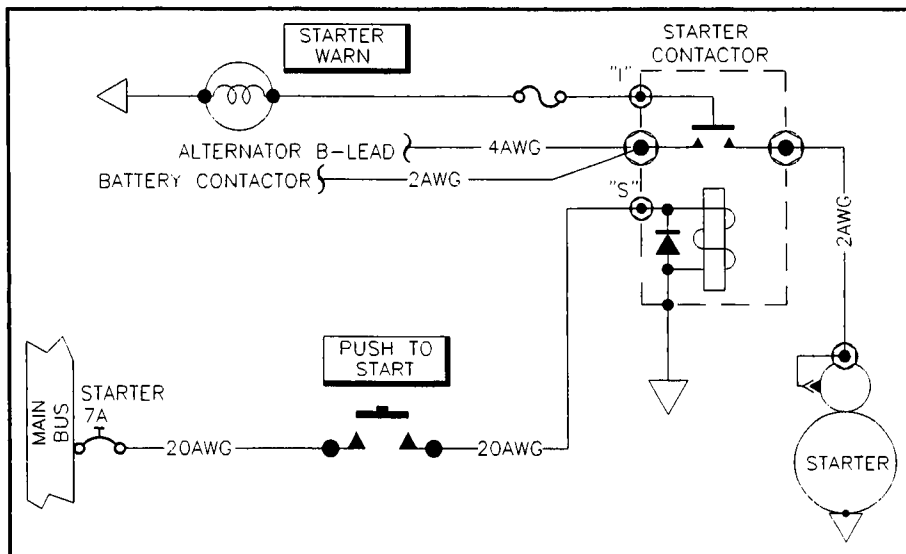

Figure 11-21. Typical Starter Contactor Wiring.
**Starter Contactor** wiring shown in Figure 11-21 is typical. Note that this circuit does get circuit protection by way of a breaker or fuse. This particular contactor is also a 3-terminal device with one side of its solenoid coil grounded to the mounting base. Unlike the battery contactor that needs a GROUND to operate, the starter contactor needs a SOURCE of power.